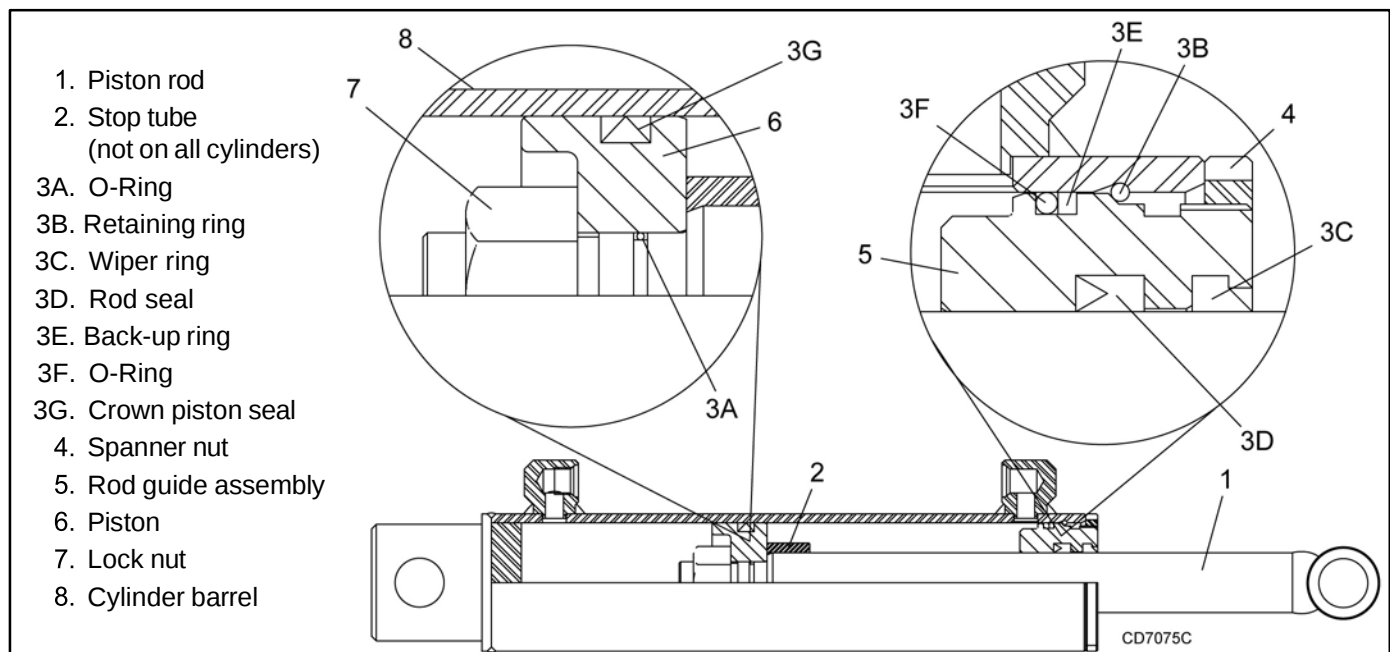

Figure 8. Spanner Nut Cylinder Assembly
Lightly coat rod threads with hydraulic oil and slide O-ring (3A) over threads and into groove. Install stop tube (if equipped) and piston (6) onto rod (1) as shown in Figure 8. Completely clean threads of hydraulic oil, apply Locquic® Primer 7649 and Loctite® 242 to the rod threads, and install lock nut (7). Torque to 175 lbs- ft.